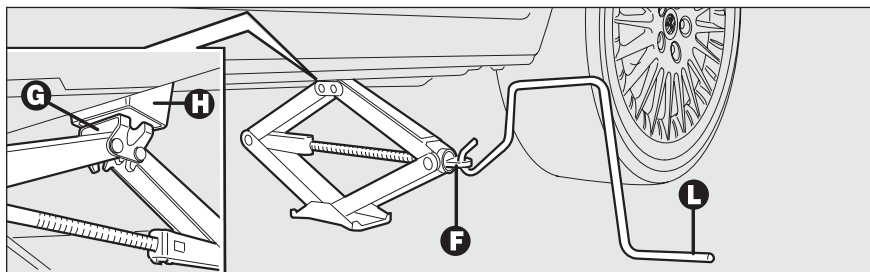

fig. 7
- ☐ Operate the device **F-fig. 7** to extend the jack until the top of the jack **G** fits correctly into catch **H**;
- ☐ Fit the handle **L-fig. 7** to operate the jack and lift the car until the wheel to be changed is several centimetres off the ground;